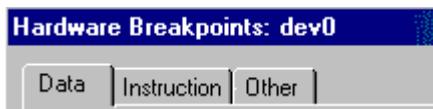

Figure 2-2. Hardware Breakpoints Dialog Box
2. The **Hardware Breakpoints** dialog box appears. The dialog box has three tabbed pages: **Data**, **Instruction**, and **Other** (Figure 2-2).